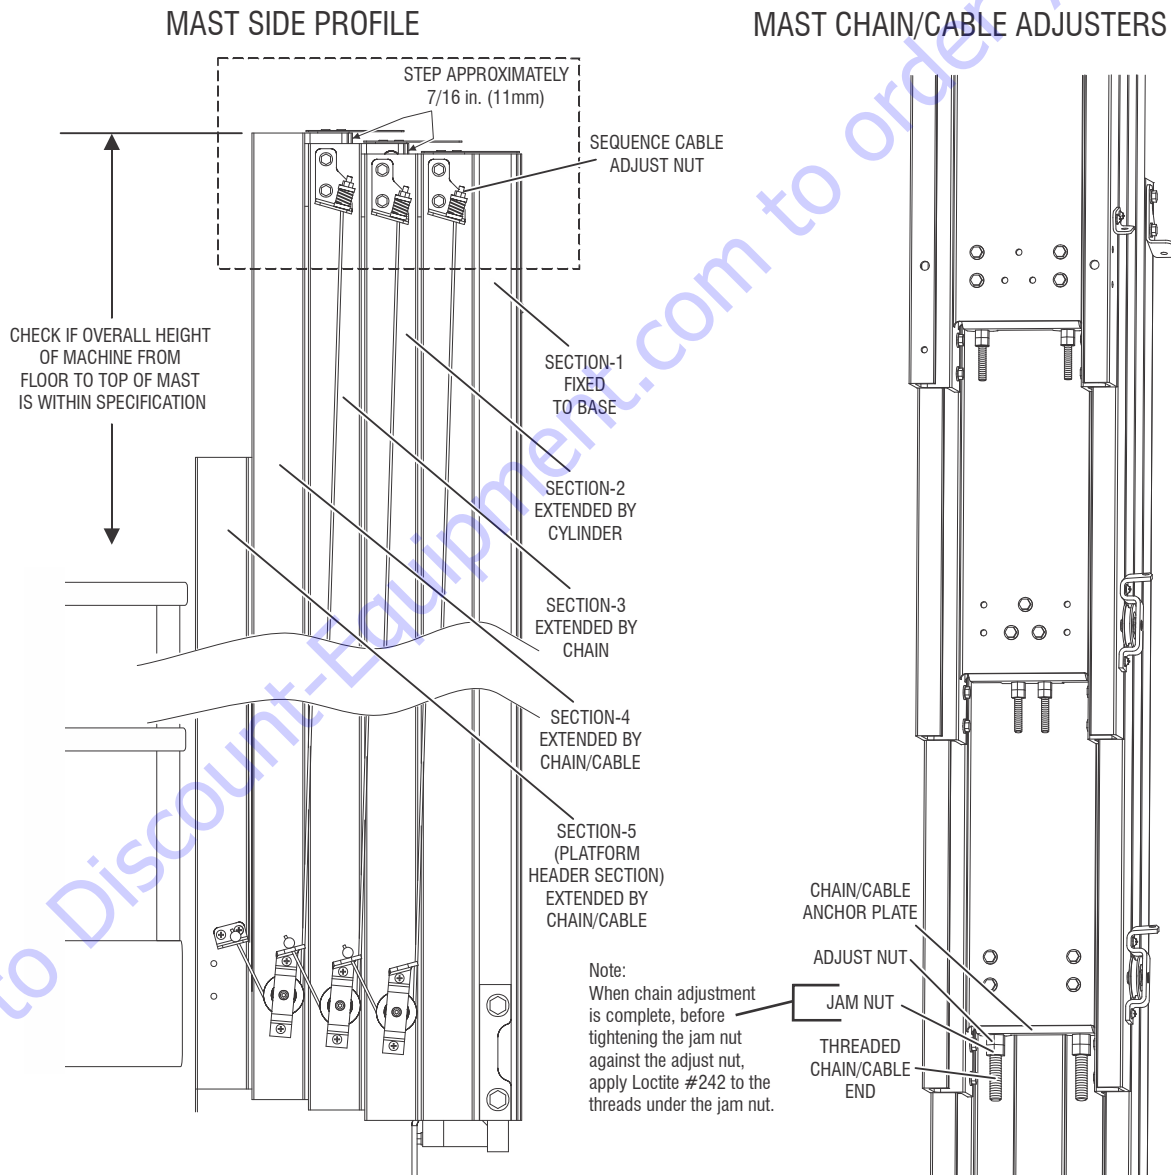

Figure 2-7. Mast Chain/Cable/Sequence Cable Adjustment Components. (Typical)
2. Then with no load in the platform check the side profile of the top of the mast for the amount of adjustment necessary to obtain the 7/16 in. (11mm) step for mast sections-3 and up. (See Figure 2-7.)
6. **Tighten** (*to raise mast section*), or **loosen** (*to lower mast section*) **the adjusting nut** against the anchor plate **on each** chain/cable. Adjust the nut the amount required to raise or lower the top of the mast section to match the side profile shown in Figure 2-7. when the mast is retracted. Be certain each chain/cable pair is adjusted to equal tension. (*The threaded end of the chain/cable will need to be restrained while tightening the adjust nut to keep the chain/cable from twisting.*)
7. Retract the mast all the way and check if the top of the mast sections appear as shown in Figure 2-7.
8. Repeat steps (1) through (7) for remaining mast sections. **ENSURE THAT ALL CHAIN/CABLE PAIRS HAVE EQUAL TENSION.**
1. Be certain the mast is completely retracted and at the bottom of travel. Check the mast "Side Profile" at the top of the mast as shown in Figure 2-7., adjust mast sections to proper height if necessary.